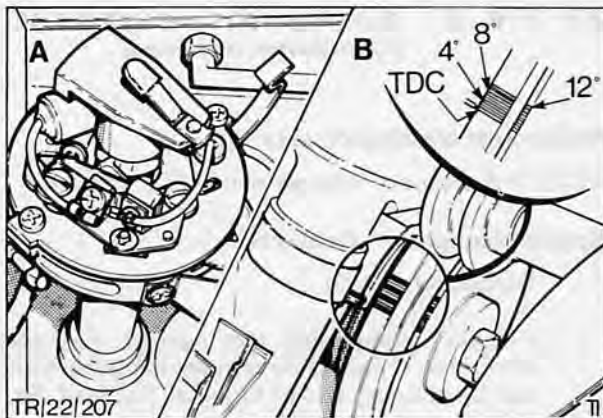

Fig. 33. Engine position on TDC No. 1
NOTE: The timing mark identification for OHC variants is illustrated in Fig. 33.
4. Position engine on TDC No. 1 cylinder by manually turning engine to a point where rotor arm would be touching No. 1 contact in distributor cap and TDC mark on crankshaft pulley lines up with timing mark, Fig. 33.
NOTE: The timing mark identification for the crankshaft pulley is in Fig. 33.